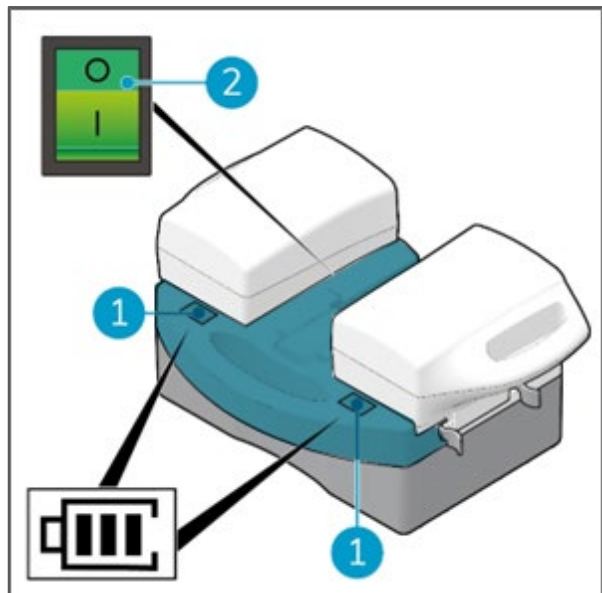

Figure 8
3. Switch on the main switch from 0 to 1 (Figure 8, pos. 2)
4. The two displays (Figure 8, pos 1) indicate the charge level of the batteries.
6. Switch to 0 (figure 8, pos 2) when the batteries are fully charged.